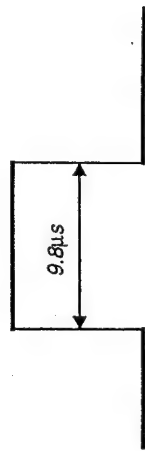

Fig. 31-2.
6. Adjust RV1 on the DA board so that the H. BLK pulse width is 9.8  $\mu$ s. Fig. 31-2.